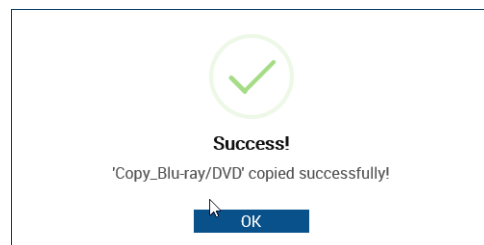

FIG. 74 Macro Copied Successfully
3. The system indicates that the selected macro was successfully copied (FIG. 74) - click **OK** to proceed. :